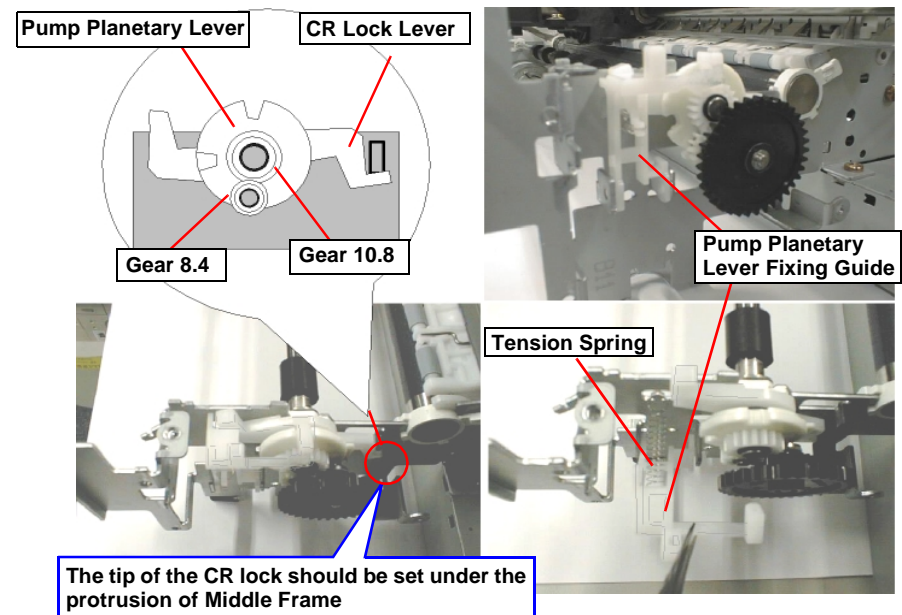

Figure 4-58. Check the Right edge of the Paper Eject Roller
- Make sure that all parts is assembled on the right edge of the Paper Eject Roller Assy. Refer to Figure 4-58.